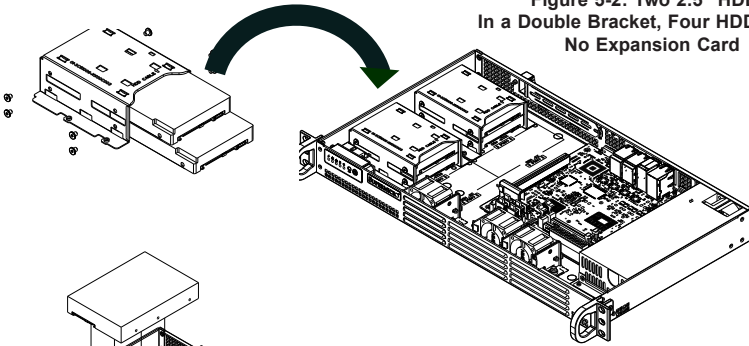

Figure 5-2: Two 2.5" HDD's In a Double Bracket, Four HDD's Total, No Expansion Card
2. Install up to four 2.5" hard drive(s) into the hard drive bracket(s) and secure them to the bracket with the screws provided, as illustrated in figure 5-2 through 5-5.
3. Place the hard drive and bracket into the chassis as illustrated in Figure 5-2 or Figure 5-4 on the following page. If up to four 2.5" hard drives are desired, rotate the hard drive brackets ninety degrees and place them side by side before attaching them to the chassis.